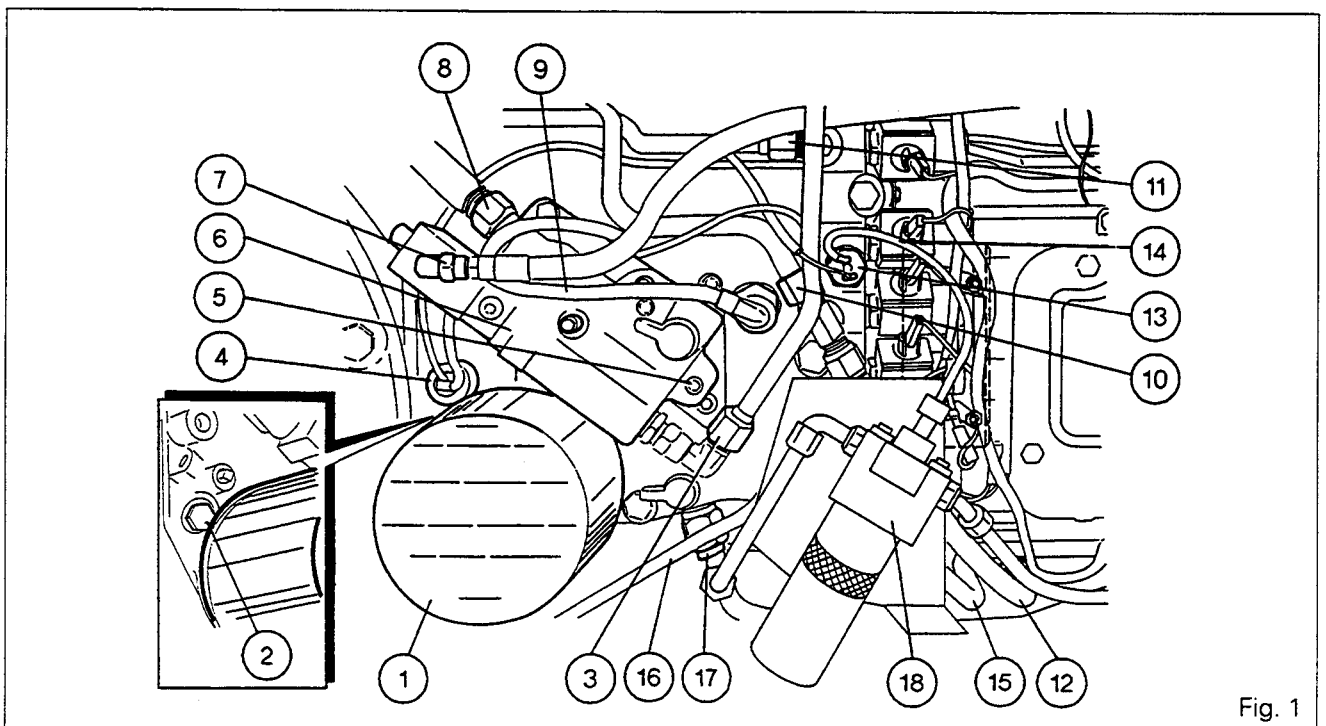

Fig. 1
For operations 2 to 12 refer to Fig. 1.
21. Refit the cover and screws **(2)** (Fig. 1).
25. Refit valve **(6)** (if fitted) (Fig. 1).
26. Refit the screws **(5)** (Fig. 1) and tighten them to a torque of 25-35 Nm.